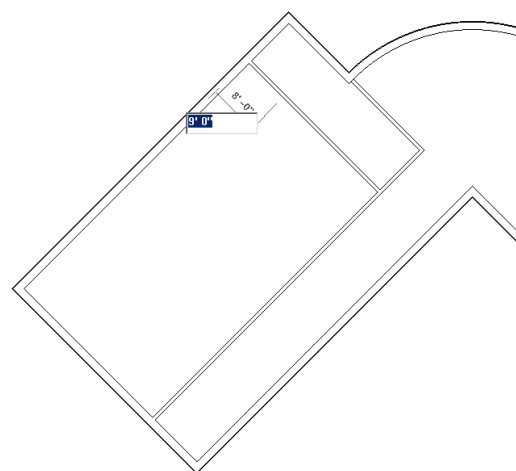

Figure 2-65 Specifying the distance of the fourth interior wall
8. Create the next wall by moving the cursor close to the last specified point. Next, move it downward toward the right. When the temporary dimension appear, enter the value **9'0"**, as shown in Figure 2-65, to start the wall.